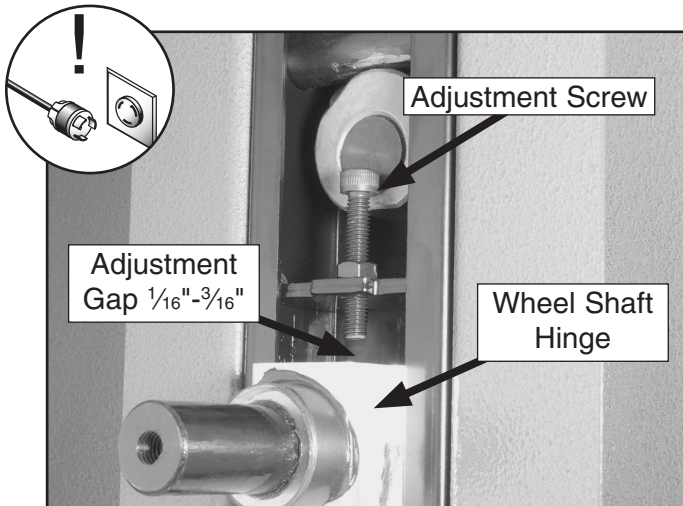

Figure 60. Tension lever adjustment components.
5. Turn the adjustment screw shown in **Figure 60** until the gap between the screw and the wheel shaft hinge is $\frac{1}{16}" - \frac{3}{16}"$.